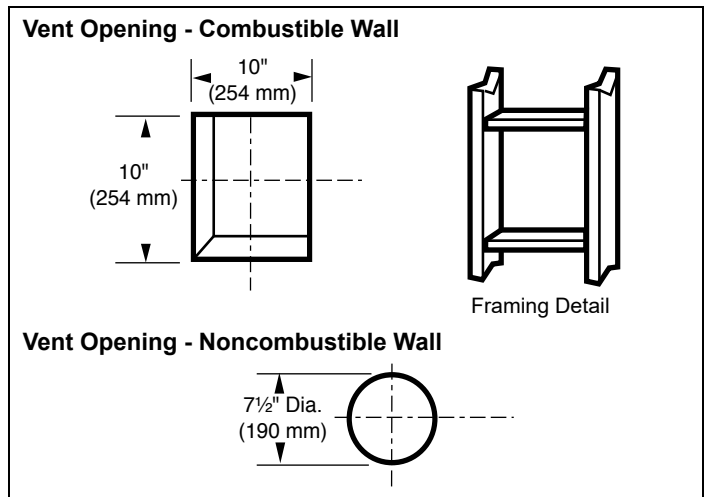

Figure 3.20 - Locate vent opening. **NOTE:** Zero clearance sleeve is required for combustible wall installations.
1. Locate the vent opening on the wall. Refer to Figures 3.20 & 3.21 to determine the top of the opening centerline. It may be necessary to first position the stove and measure to find the hole location. Depending on whether the wall is made of combustible materials, cut the opening to the size shown in Figure 3.20. Combustible wall openings must be framed as shown in Figure 3.20.